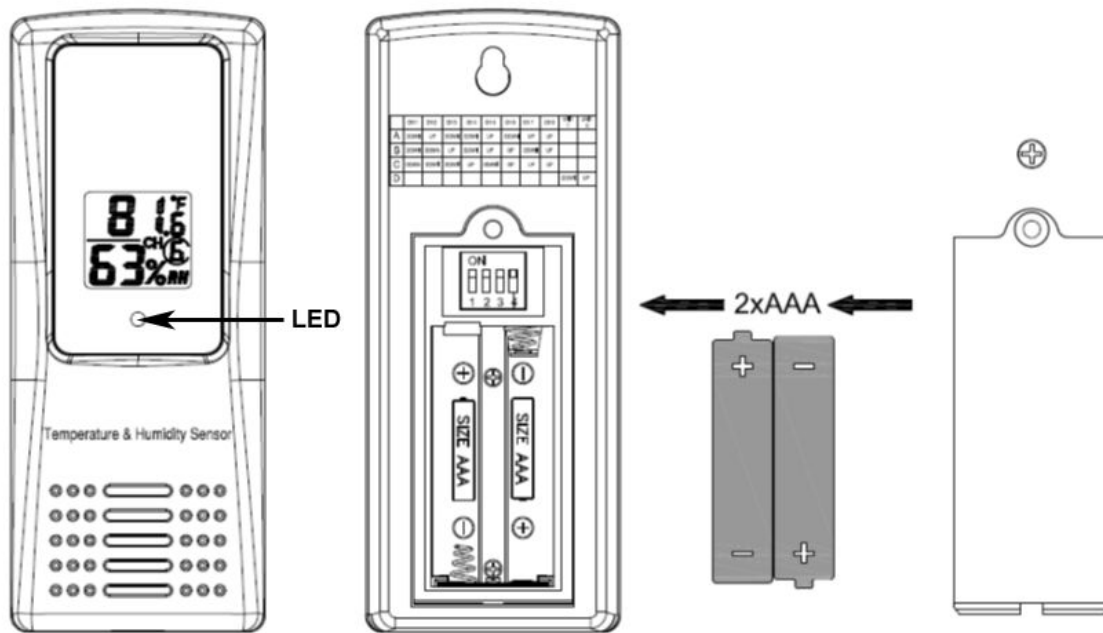

Figure 1
1. Remove the battery door on the back of the transmitter(s) by removing the set screw, as shown in Figure 1 .